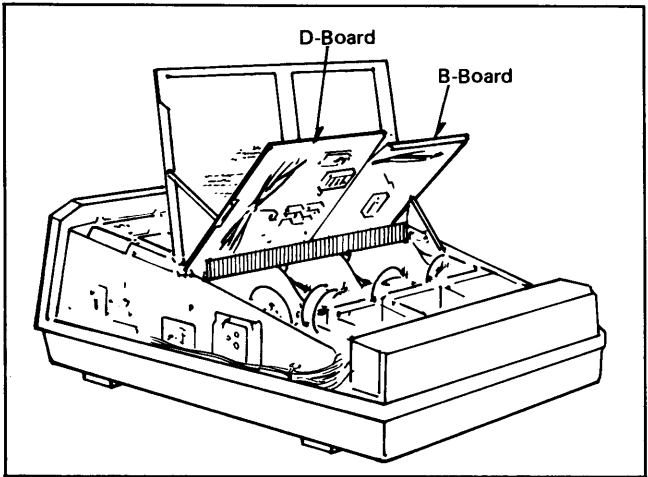

Fig. 7
- Then open the "B"-Board as shown in Fig. 7.
- Then open the "D"-Board as shown in Fig. 7.